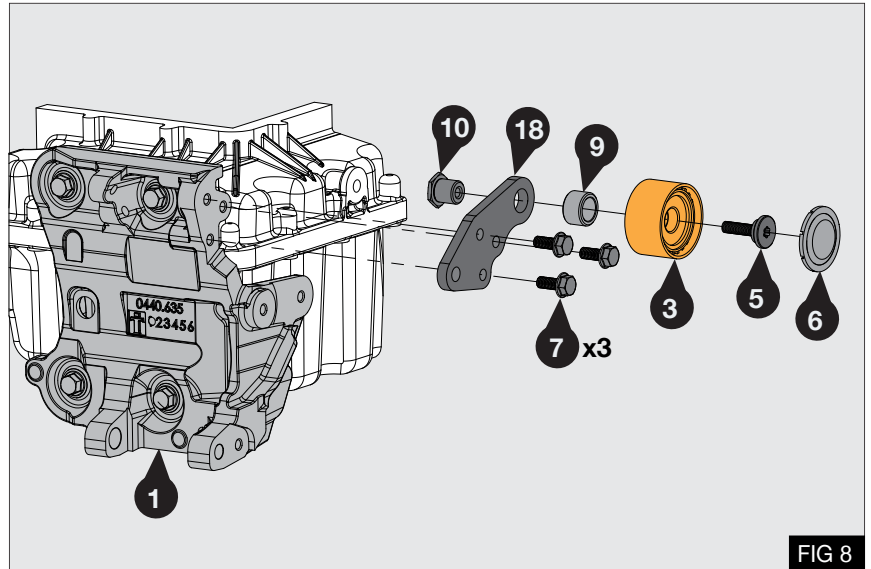

FIG 8
2. Assemble the Idle pulley (3) (see note) onto the pulley mount (18) using centring bolt (5) with spacer (9) and pulley nut (10) - Fig 8
**Note:** The idle pulley (3) securing bolt is designed to fit into the pulley from one direction only. The metal bearing shield on the rear of the bearing should face the upper mount plate.
- Torque bolt (5) to 18.4 lb.ft / 25 Nm
3. Fit cap (6)